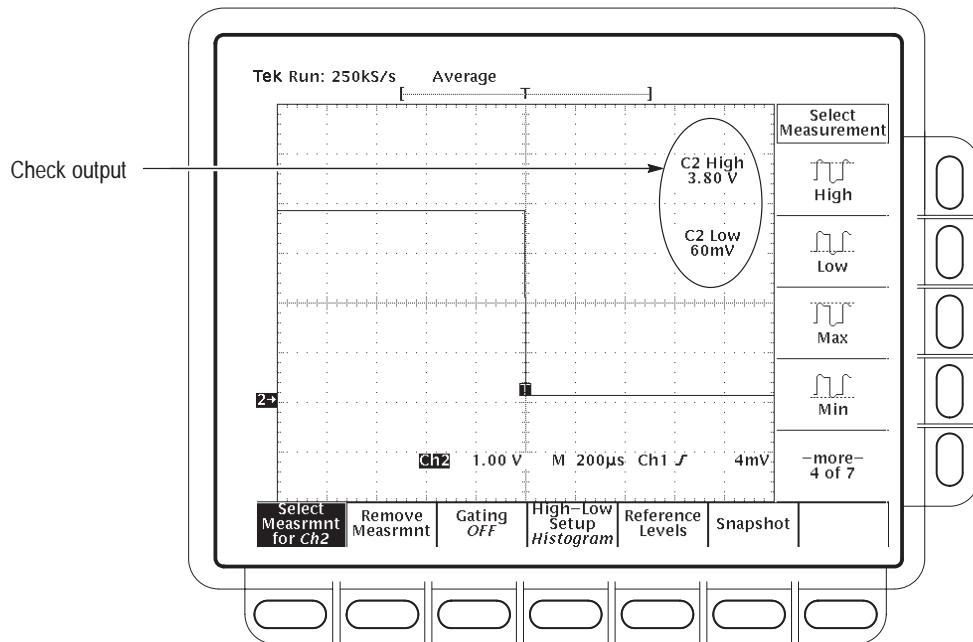

Figure 4–20: Measurement of main trigger out limits
- CHECK that the **Ch2 High** readout is ≥ 2.5 volts and that the **Ch2 Low** readout is ≤ 0.7 volts. See Figure 4–20.
d. Check Delayed Trigger output against limits: See Figure 4–20.